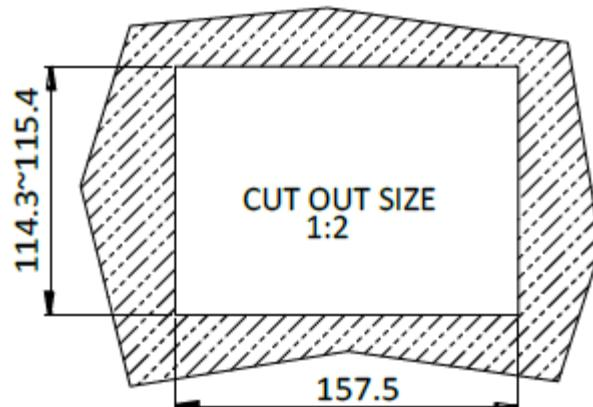

Figure 3-20: Panel Cutout Dimensions
Step 2: Cut out a section of the panel that corresponds to the rear panel dimensions of the PPC-F06B-BT. The recommended cutout sizes are shown below (Figure 3-20).